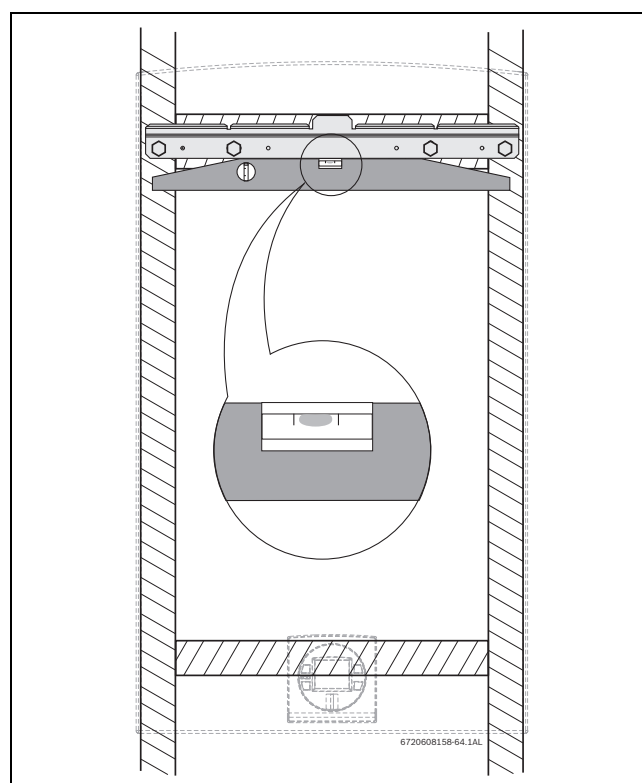

Fig. 30 Leveling wall mounting bracket
- ▶ Secure the wall mounting bracket provided with the heater to a wall surface. The heater must be kept level on the wall surface, see fig. 30, page 26.